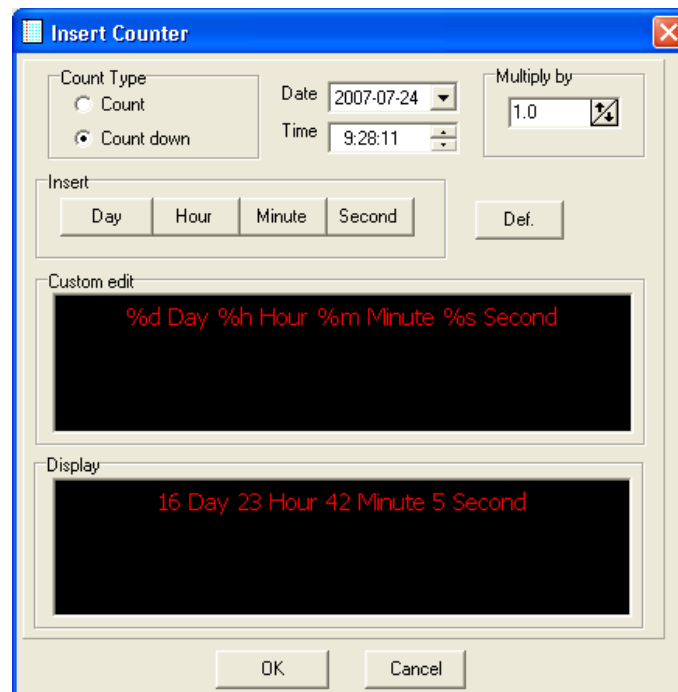

Fig. 2.16 Insert counter interface
**Insert Counter:** With this function, users will be able to insert a counter, either down-counter or up-counter. From Fig 2.16, we can see that in the counter interface, we can count either time or objects. The coefficient of correlation rang from 0.1~999. We can notice that there are two count types—counting up and counting down. We can also choose to count by days, hours, or by seconds. Or we can choose to input %d(% of days), %h(% of hours ), %s ( % of seconds) directly to the editing area.